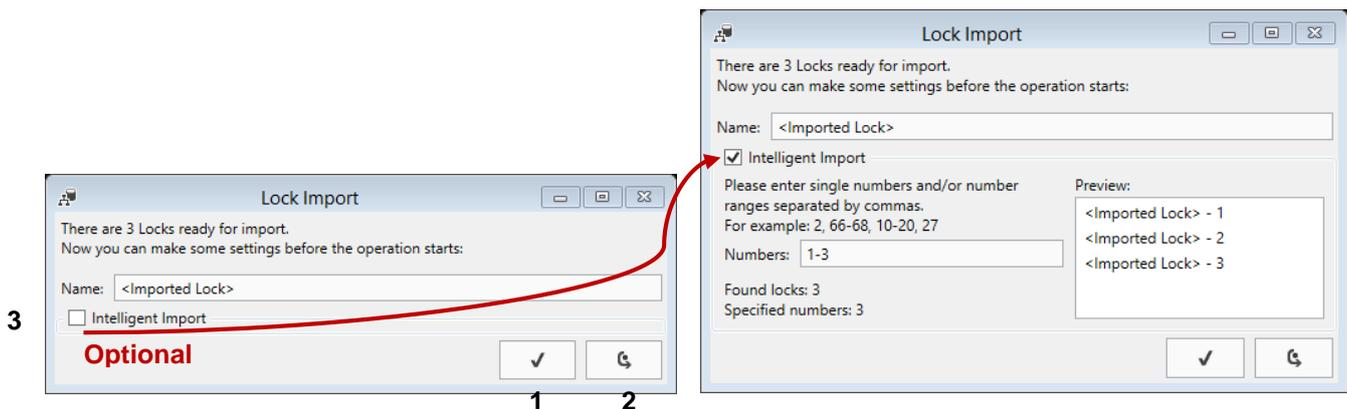

Figure 27: Lock Import
2. If the software recognized new locks while a Upload-Process, it will display the Lock Import Dialog (Figure 27 left picture):
The lock import window expands with activation of the intelligent import checkbox (Figure 27 right picture).